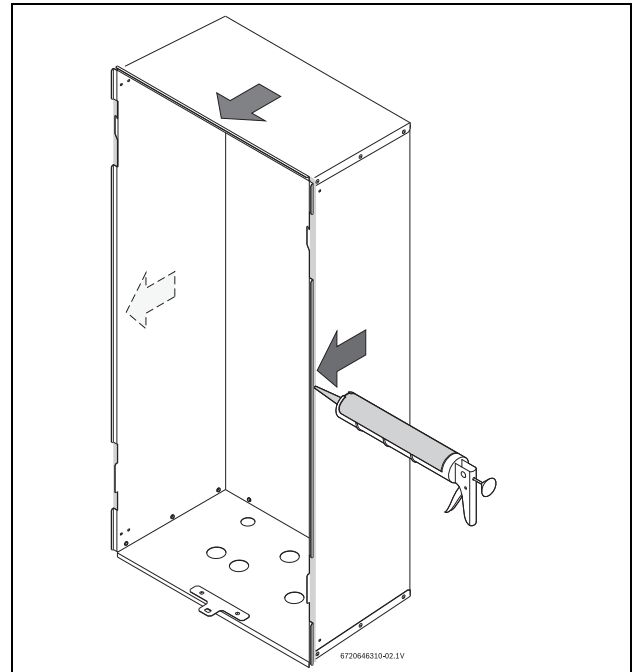

Fig. 8 Silicone outside the recess box
- ▶ Put silicone along the outside flange of the recess box where it will seat against the wall framing, see Fig. 8.